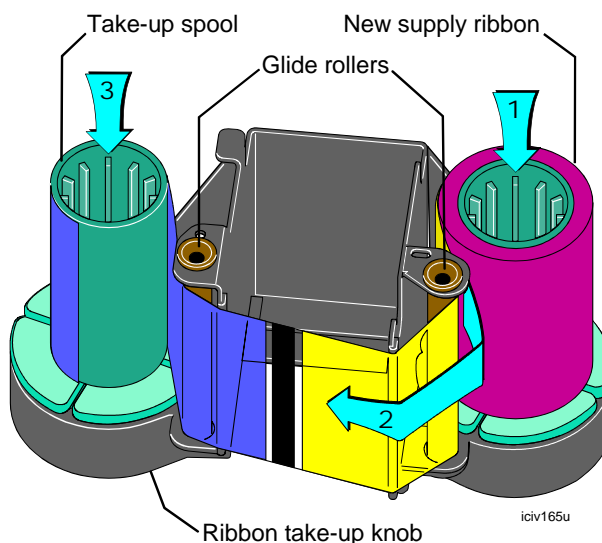

Figure 4-3: Load print ribbon in the cartridge
- 1 Place the print ribbon cartridge on a level surface, such as a table, with the handle down and the glide rollers toward you. (See Figure 4-3.)
- 4 Place the full supply roll on the right spool holder (step 1 in Figure 4-3).
Place the empty take-up spool on the left spool holder (step 3 in Figure 4-3), with the ribbon in front of the glide rollers (step 2 in Figure 4-3).